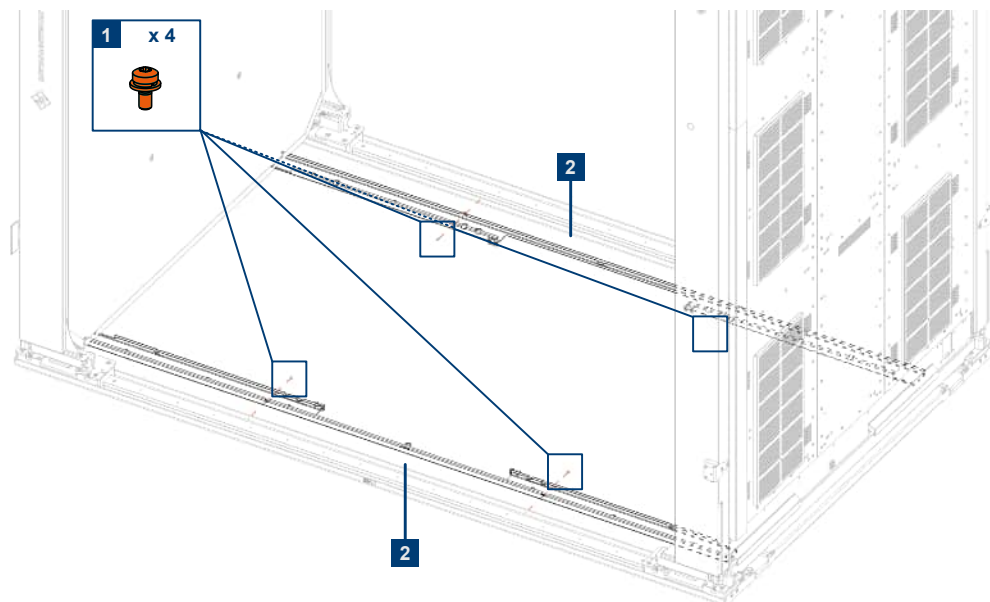

Figure 4-4: Installing the delivered cable ducts
1. Install the delivered cable ducts (1) to the R&S QPS using 4 screws (2). Refer to Figure 4-4.